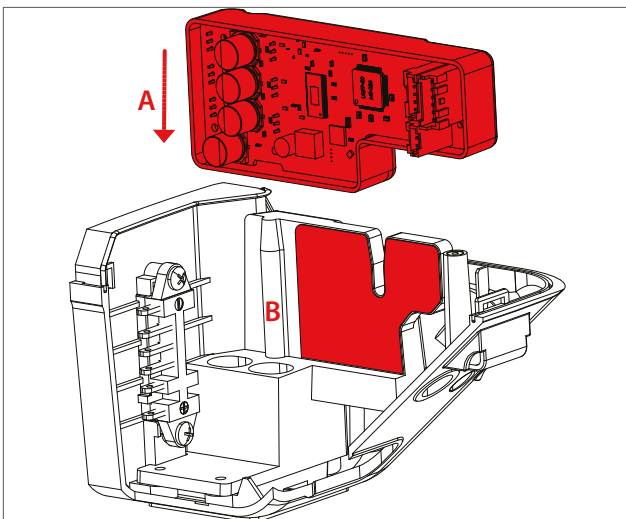
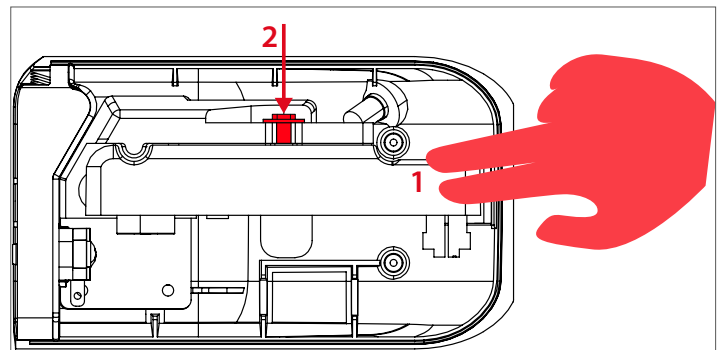

Figure 4.26 Inserting the control unit
Figure 4.27 Control unit mounting
2. Place the thermally conductive pad [B] on the clean surface of the heat sink (Fig. 4.26).
3. Insert the control unit [A] into the docking station (Fig. 4.26) and mount to the heat sink using an M4 x 12 [2] hexagonal fastener (Fig. 4.27).